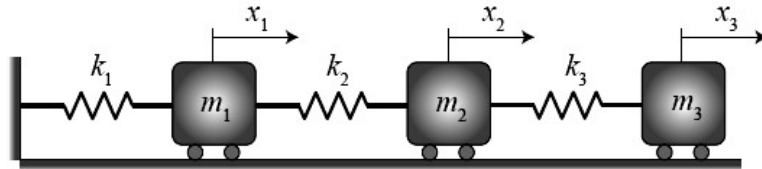

Figure 3
- Q.3(b) Using Dunkerley's method, determine the natural frequency of the system shown in Figure 3. Take $m_1 = 1$ kg, $m_2 = 2$ kg, $m_3 = 3$ kg, $k_1 = 100$ N/m, $k_2 = 100$ N/m, $k_3 = 200$ N/m. [5] 2,3,5 3